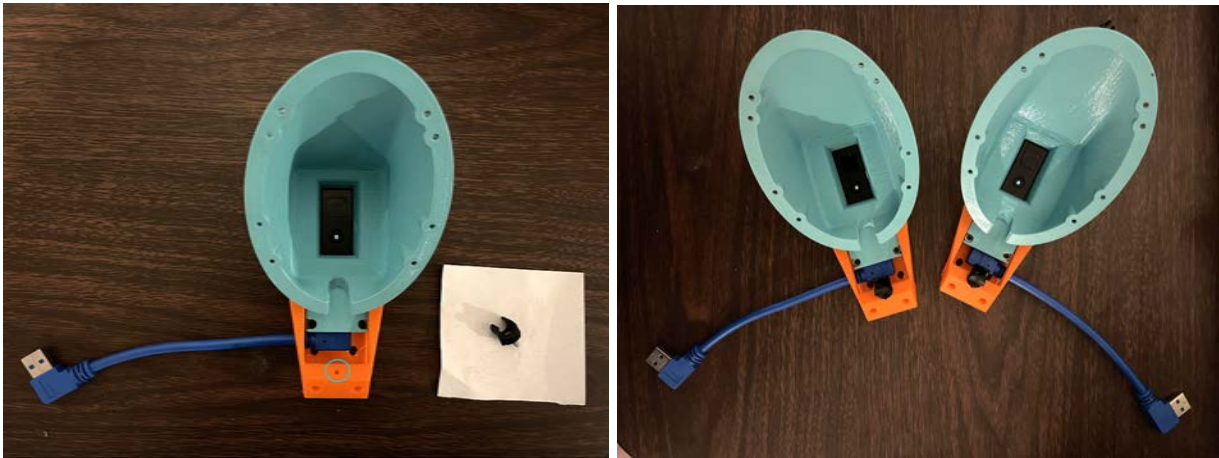

Figure 75: Alignment clip screwed onto part Gripper\_Finger\_Mount
13. Attach the tube fitting clip with a thread forming screw to the hole in each Gripper\_Finger\_Mount using a screwdriver. The alignment clip is used to hold the push-to-connect connector of the fitting-tubing assembly. Align the clip so that its opening is parallel to the usb cable (Fig 75).